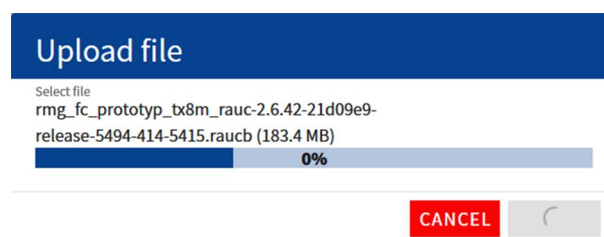

Fig. 100: Upload file window – progress bar
- ➡ The selected file is uploaded. This may take several minutes (cf. fig. 100).